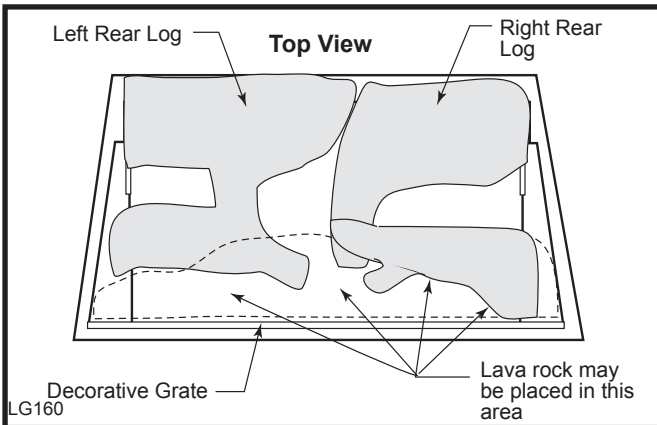

Fig. 24 Lava rock placement.
5. Loosely sprinkle the lava rocks directly on top of the burner just behind decorative grate. (Fig. 24) Use the lava rock to cover brackets on the burner. Do not place lava rocks toward back of burner. The lava rock is shipped inside the bag assembly.